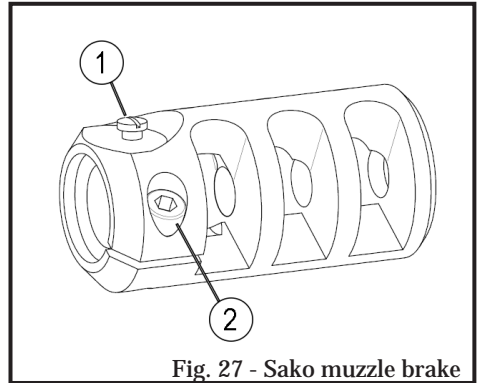

Fig. 27 - Sako muzzle brake
The SAKO TRG M10 can be equipped with a Sako muzzle brake (Fig. 27) or equivalent that mitigates recoil and reduces flash signature during shooting. The Muzzle brake is correctly positioned when the exhaust gas channels are positioned to the sides and the mirage strap fitting screw (1) is pointing upwards.